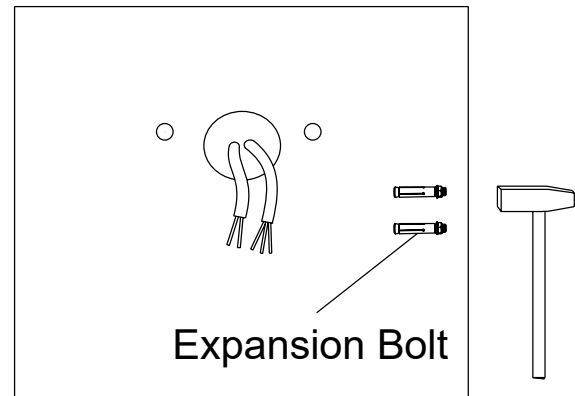

FIGURE 13
- Hammer the expansion bolts into the wall. (Figure 13)